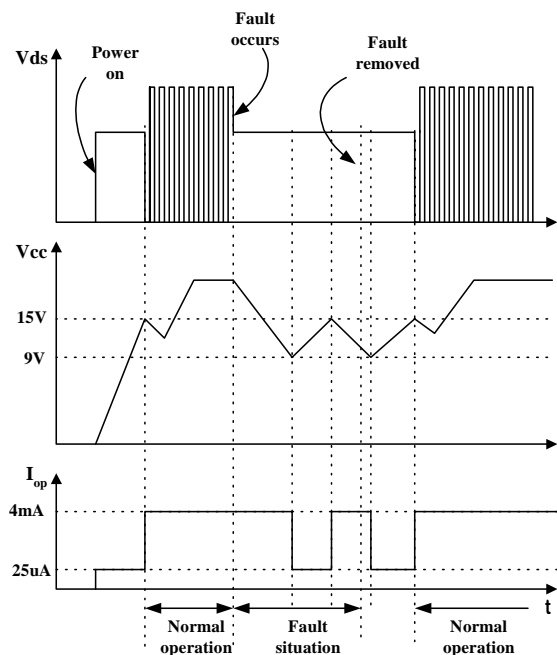

Figure 12. Auto restart mode protection
-Auto-restart mode protection: Once the fault condition is detected, switching is terminated and the Sense FET remains off. This causes V_{cc} to fall. When V_{cc} falls down to the under voltage lockout (UVLO) stop voltage of 9V, the protection is reset and FSCQ0765RT consumes only startup current (25uA). Then, V_{cc} capacitor is charged up, since the current supplied through the startup resistor is larger than the current that FPS consumes. When V_{cc} reaches the start voltage of 15V, FSCQ0765RT resumes its normal operation. If the fault condition is not removed, the SenseFET remains off and V_{cc} drops to stop voltage again. In this manner, the auto-restart can alternately enable and disable the switching of the power Sense FET until the fault condition is eliminated (see Figure 12).